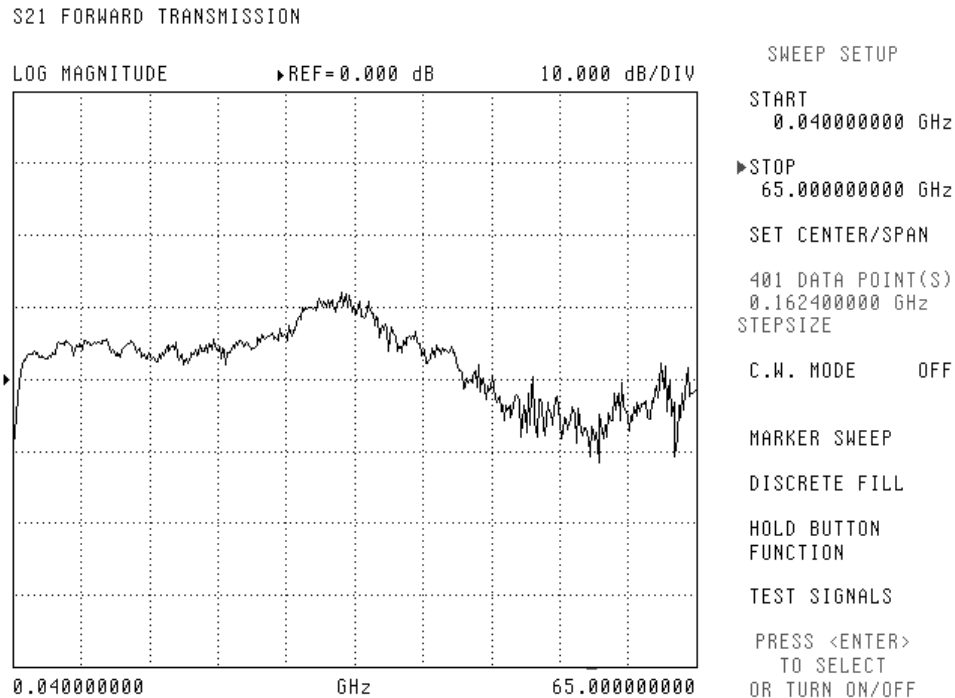

Figure 15-6. S21 or S12 Forward Transmission
- Step 4.** View single channel S21 and S12 as described above and verify that the traces are similar in appearance to Figure 15-6 on the following page.